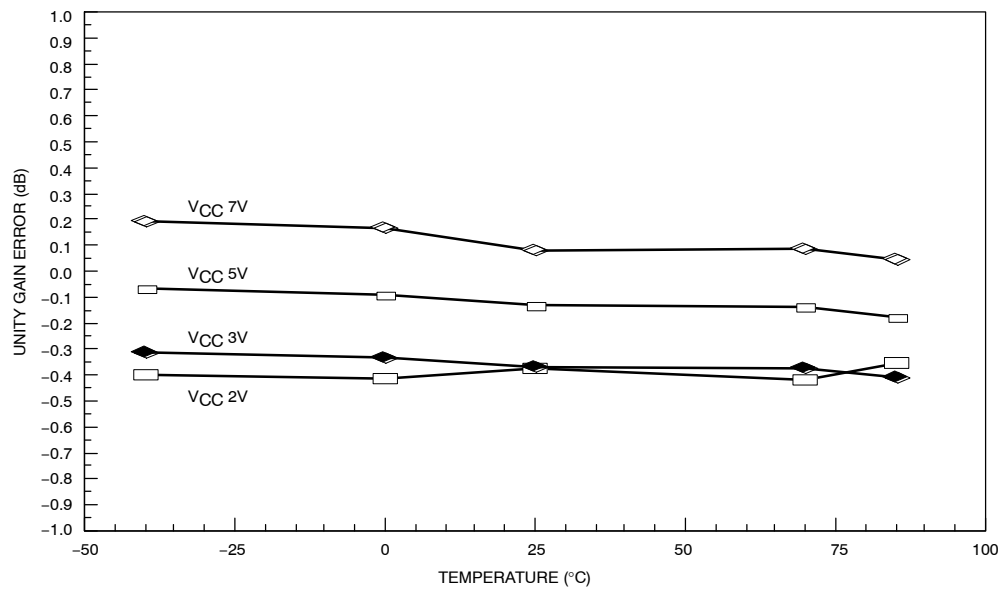

Figure 6. Unity Gain Error vs. Temperature and V_{CC}
1. Operation down to $V_{CC} = 2.0\text{ V}$ is possible, but performance is reduced. See curves in Figures 6 and 7.